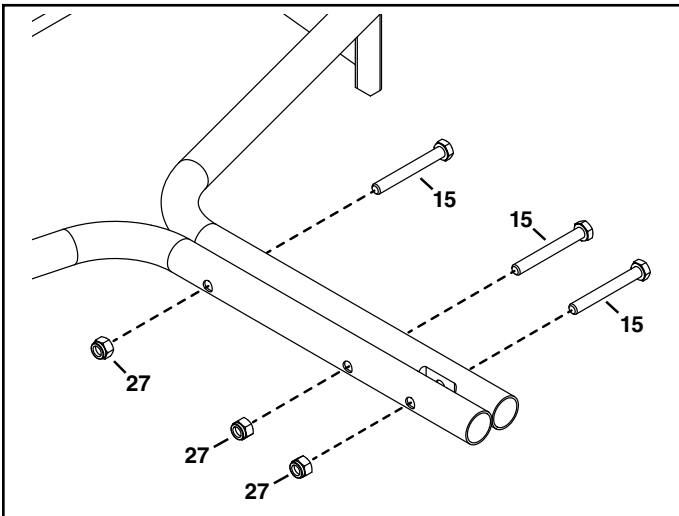

FIGURE 5
- Fasten the hitch tubes together using three 5/16" x 2-1/2" hex bolts (15) and 5/16" nylock hex nuts (27). **Do not tighten yet.** See figure 5.